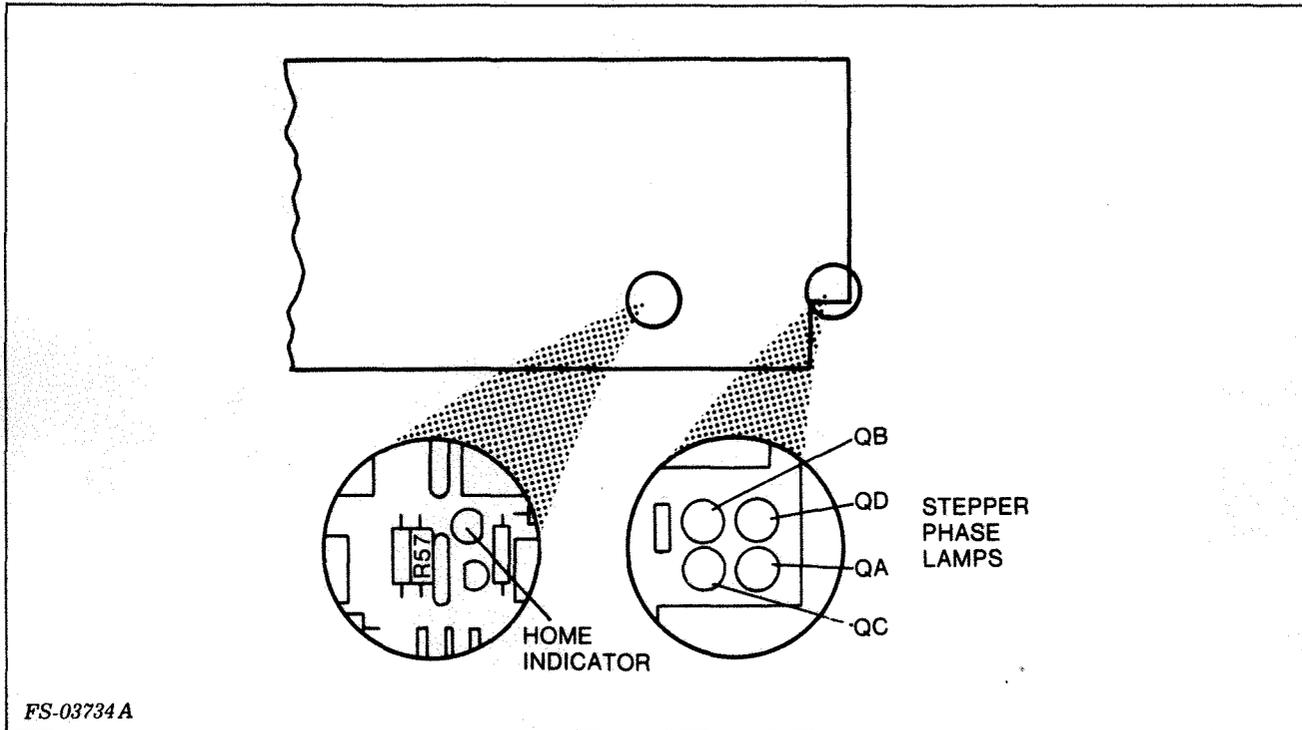

Figure 5-17. Read/Write and Clock PCB Stepper Phase and Home LEDs
5. Place the locking arm lever back onto the unlocked pin. Only Stepper phase LED QA will be on (see Figure 5-17).